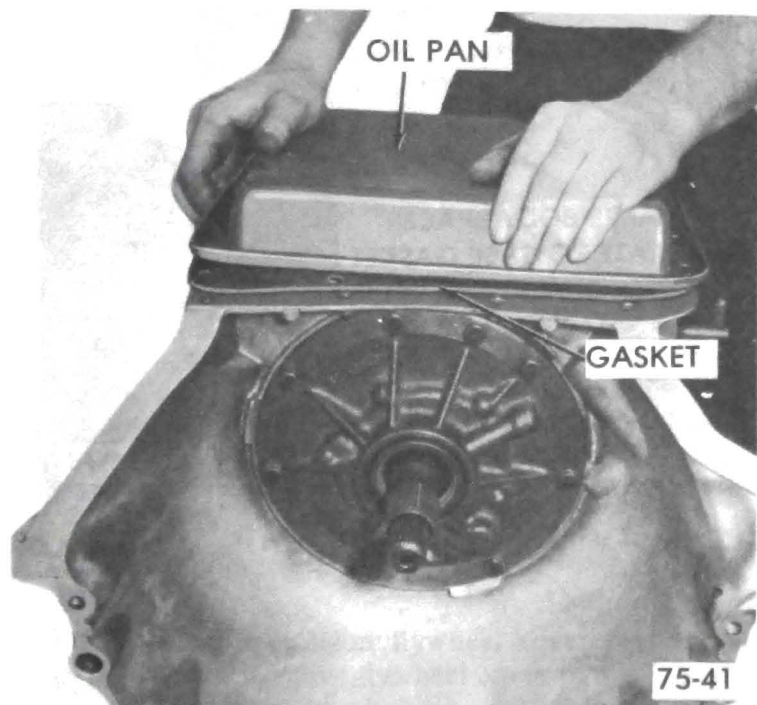

Figure 75-59
1. Remove (13) oil pan attaching screw and washer assemblies, oil pan, and gasket. See Figure 75-59.